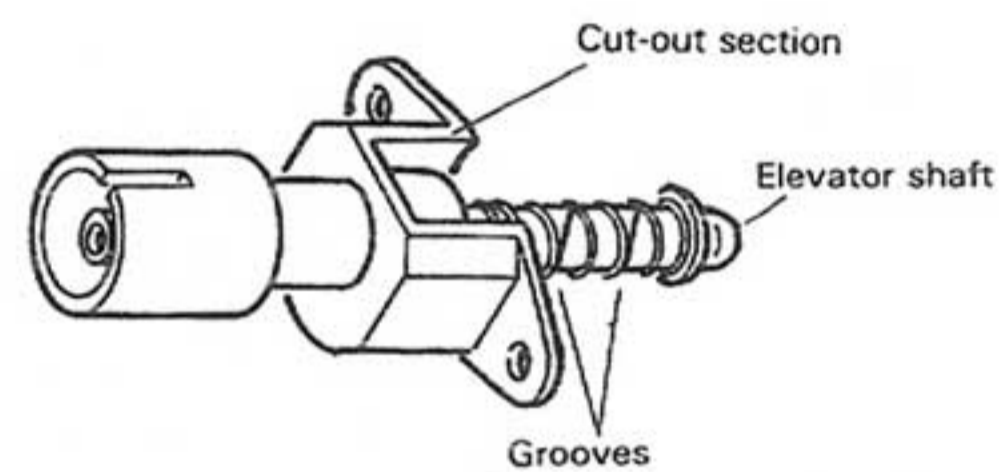
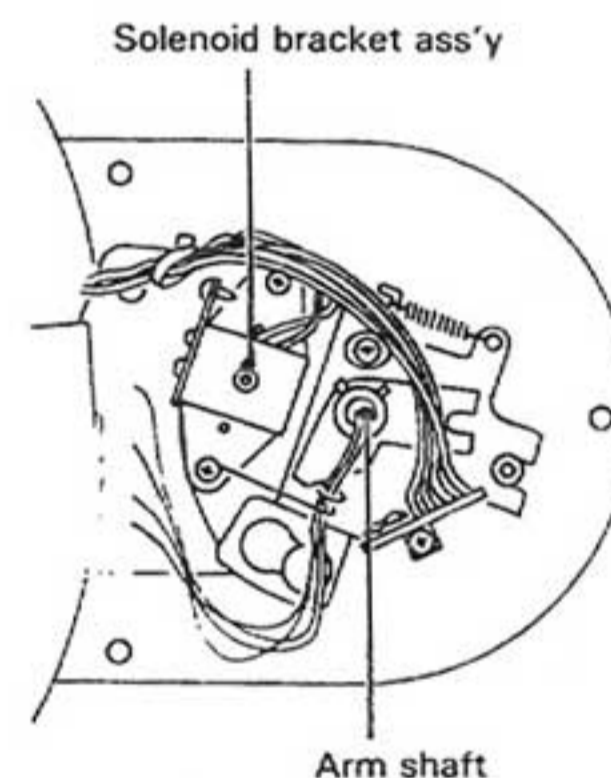

Fig. 26
Fig. 27
2. Mount the solenoid bracket ass'y to the mechanism base sub ass'y. Align cut-out section of the cylinder ass'y (Fig. 26) with the direction of the arm shaft (Fig. 27).